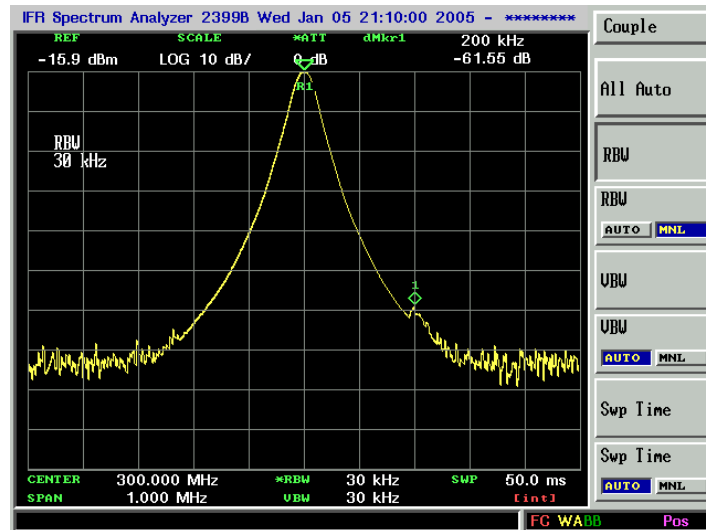

Figure 2-7. Signal Resolution with a 30 kHz Resolution Bandwidth
5. Place a marker on the smaller signal by pressing **MKR**, **Delta**, **PEAK**, **NPeakRight**. If a 30 kHz filter is used, the 60 dB bandwidth could be as wide as 450 kHz. Since then half-bandwidth (225 kHz) is wider than the frequency separation (200 kHz), the signals most likely will not be resolved. See Figure 2-7. (In this example, we used the 60 dB bandwidth value. To determine resolution capability for intermediate values of amplitude level differences, assume the filter skirts between the 3 dB and 60 dB points are approximately straight.)